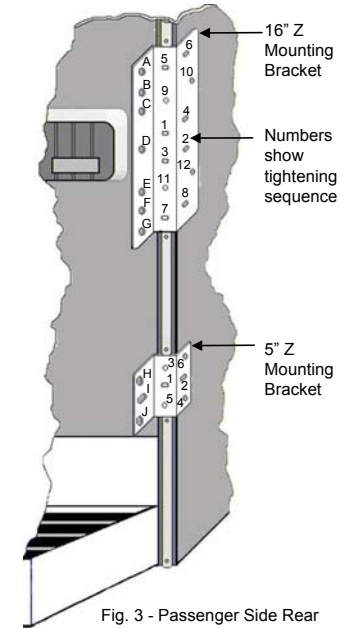

Fig. 3 - Passenger Side Rear
1. Determine the proper location for each bracket (see fig. 3). Brackets must be placed vertically at a point where the foot of the jack just extends below the bottom of the camper when fully retracted. **NOTE:** Alignment of the 16" & 5" brackets is critical. A good way to ensure proper alignment is to bolt both to the jack and then set in place and mark location.